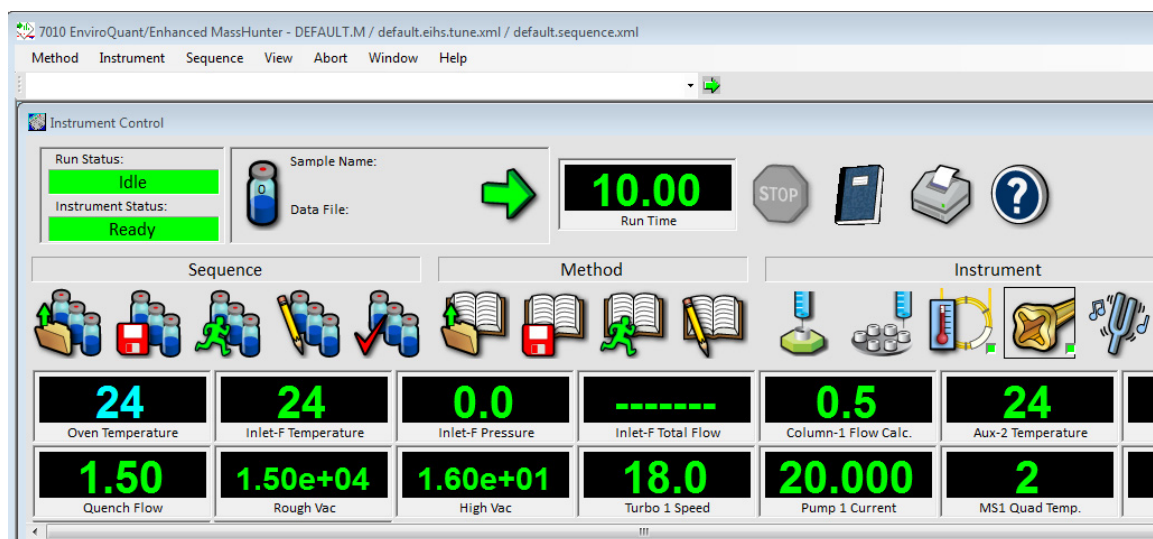

Figure 31. Arranging monitors
- 10 Select **Window > Arrange Plots and Monitors**, or click and drag each monitor to the desired position. See Figure 31 for one way of arranging the monitors.